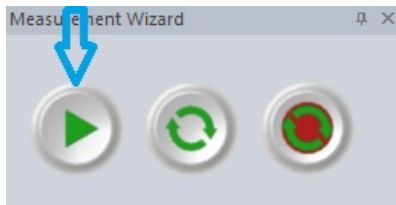

Figure 17.
- 21 Click "play" button to begin imaging process (Figure 17).